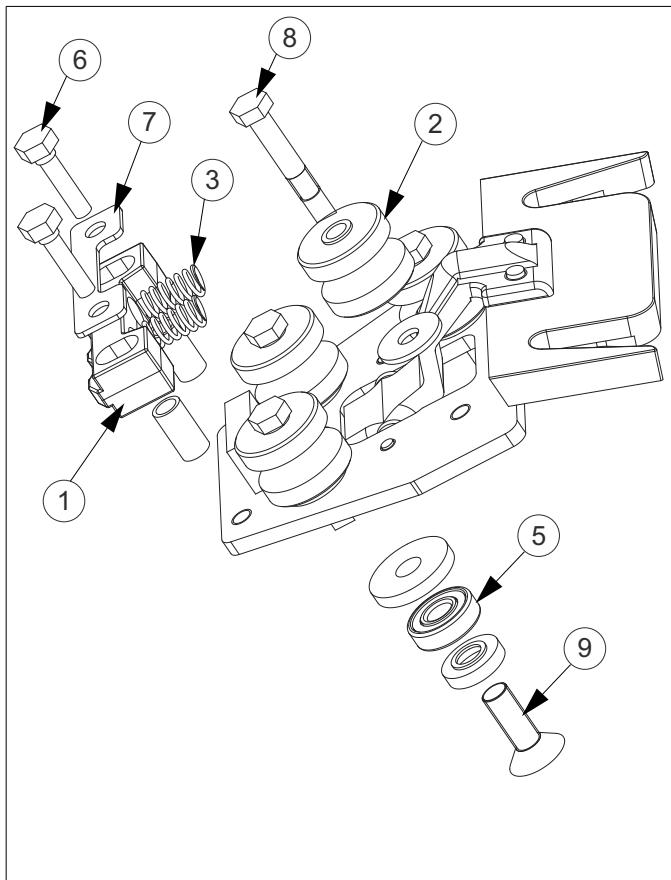

fig. 54 Carrier maintenance exploded view
3. If the gauge enters the wheels (**WORN OUT**) the wheels need to be replaced. The bearing **5** (see fig. 54) should be replaced too. See the paragraph 9.3.2 Replace the wheels and bearing.
See fig. 54.